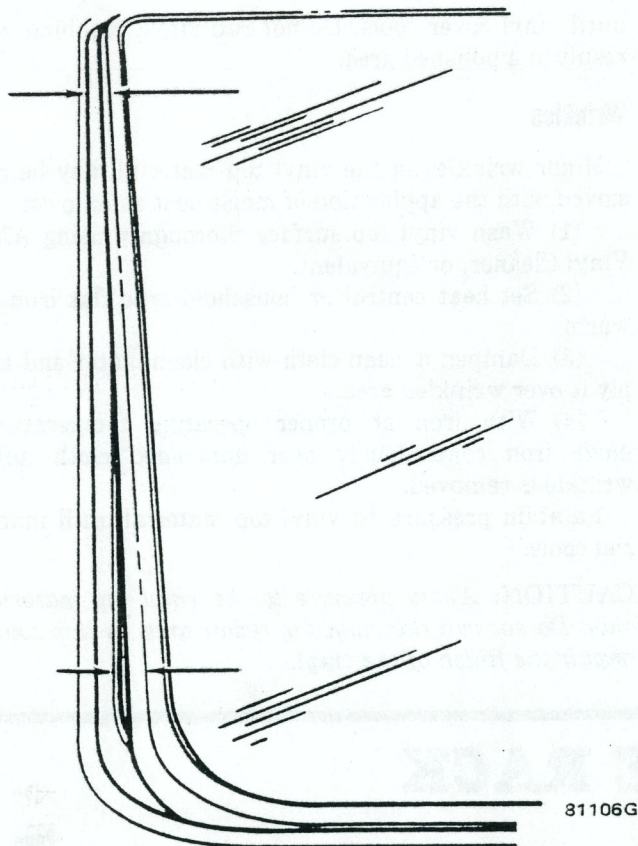

Fig. 3L-15 Glass Panel Parallel Alignment
- (1) Remove halo assembly. Refer to Halo Assembly Removal.
- (2) Loosen front guide shoe attaching screws (fig. 3L-16).
(3) Turn knurled nut on each front guide shoe clockwise to lower glass panel or counterclockwise to raise panel and obtain desired height adjustment (fig. 3L-16).
(4) Tighten front guide shoe attaching screws to 20 inch-pounds (2.3 Nm) torque after adjusting panel height.
(5) Check glass panel alignment and operation in open and closed positions. Repeat steps (2) through (4) to obtain proper height if necessary.
(6) Install halo assembly. Refer to Halo Assembly Installation.